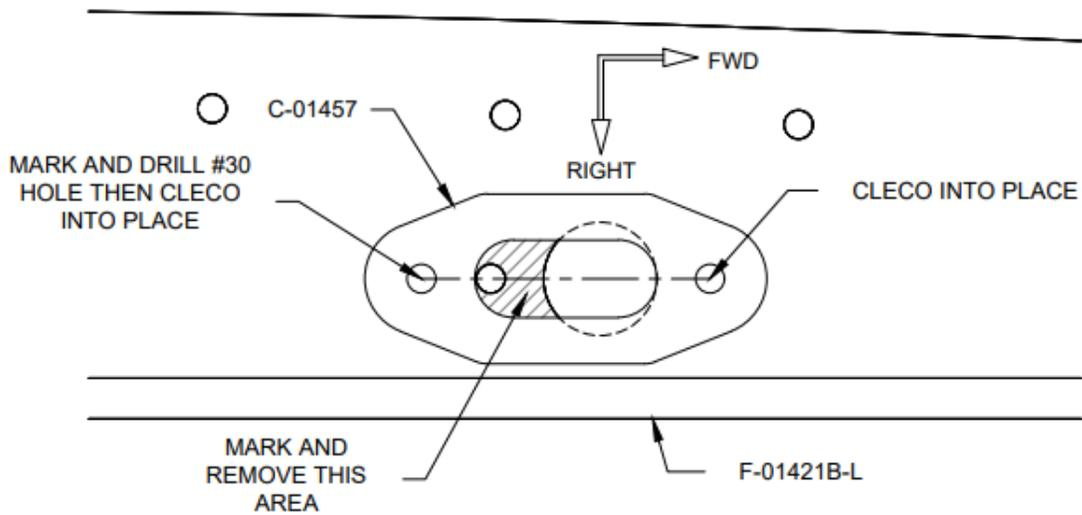

FIGURE 3: GUIDE PLATE INSTALLATION
Step 3: Cleco C-01457 guide plate into place. Mark aft #30 hole and area to be removed. Drill hole with #30 drill and remove material. See Figure 3.